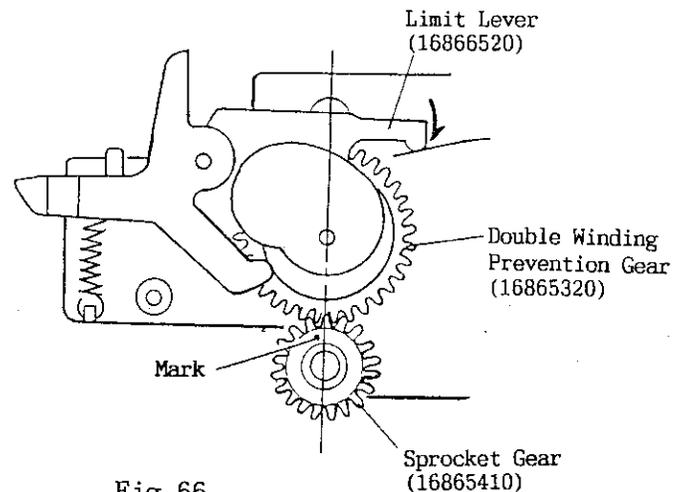

Fig.66
- 2) Incorporate the Sprocket Gear (16865410) with its mark in the position as shown in Fig.66.